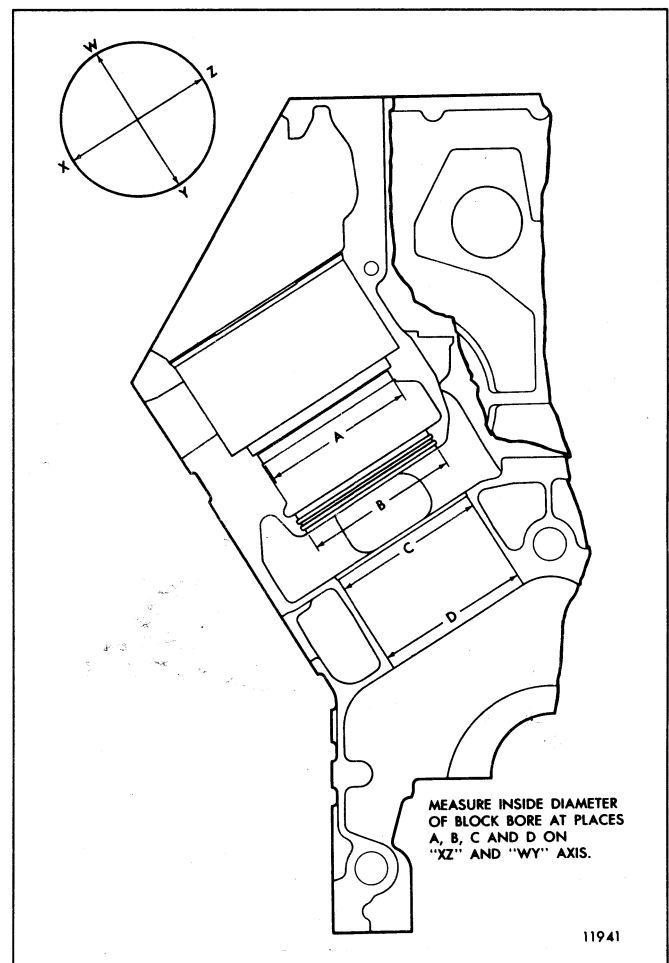

Fig. 5 – Block Bore Measurement Locations
- Make sure the seal ring grooves in the block bores are thoroughly clean. Then, inspect the grooves and lands for evidence of pitting and erosion. Seal rings are used in the two grooves above the air inlet ports. If the grooves are eroded to the extent that sealing is affected, the block must be replaced. A .01(T) oversize cylinder liner to cylinder block water seal ring is available as a service item. Refer to Section 1.0 for the cylinder block rework dimensions.
- Measure each cylinder block bore, at the positions indicated in Fig. 5, on axis 90° apart. If the diameter